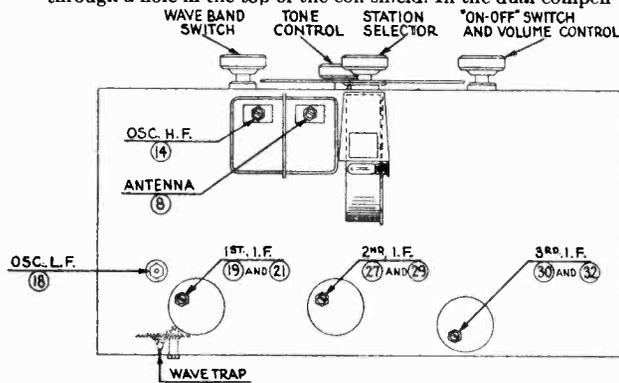

Fig. 1—Top View Showing Location of Compensating Condensers.
ADJUSTMENT OF THE WAVE TRAP—Replace the grid clip upon the Detector-Oscillator tube (Type 6-A-7). Connect the output leads from the signal generator directly to the antenna and ground terminals of the receiver. Set the Wave-Band Switch of the receiver to the standard broadcast band (left-hand position) and the Station Selector at the low frequency (540 K.C.) end. Adjust the Wave Trap condenser to give MINIMUM response to a 460 K.C. signal from the signal generator. The Wave Trap ② is located at rear and underneath the chassis, and is shown in Figure 1. It is reached from the rear of the chassis by inserting the fibre wrench through the hole near left-hand rear corner of chassis.
Finally, set the signal generator at 600, tune in this signal and adjust the "oscillator L. F." condenser, located underneath chassis (⑩ in Fig. 1) to maximum reading. This adjustment is reached through the hole in top of chassis, between the two electrolytic condensers (left-hand end of chassis when facing rear).